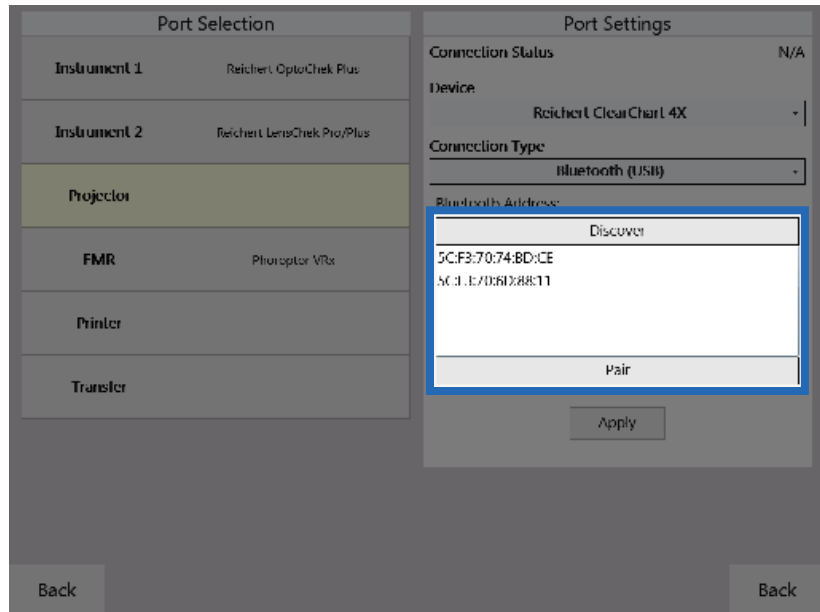

Figure IS-21, USB Address & Pair
11. Once the Bluetooth address is displayed, select the address that matches the address on the ClearChart and tap **Pair**. (Tapping Apply is not needed.) Refer to Figure IS-21.